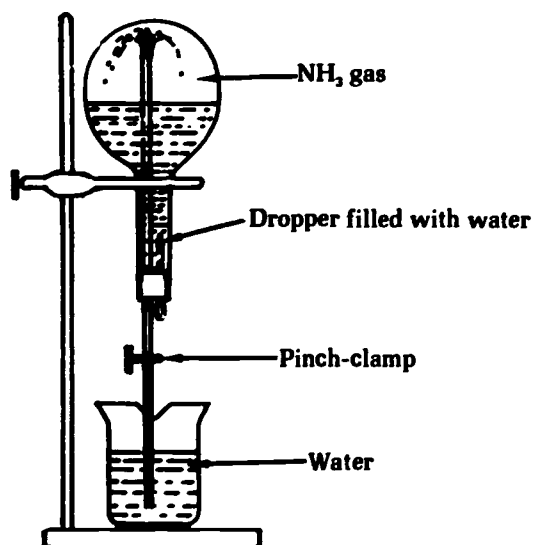

Figure 2. Set-up for the ammonia fountain.
The set-up shown in Figure 2 is displayed. The flask is filled with ammonia gas. The beaker is filled with water. When a small amount of water is squirted into the flask from the dropper, water rises in the glass tube and is sprayed into the flask as a pink fountain. The fountain continues until the flask is almost filled.
1. Set up the apparatus as shown in Figure 2. Notice that the tube in the flask has a fine tip. The flask must be DRY.